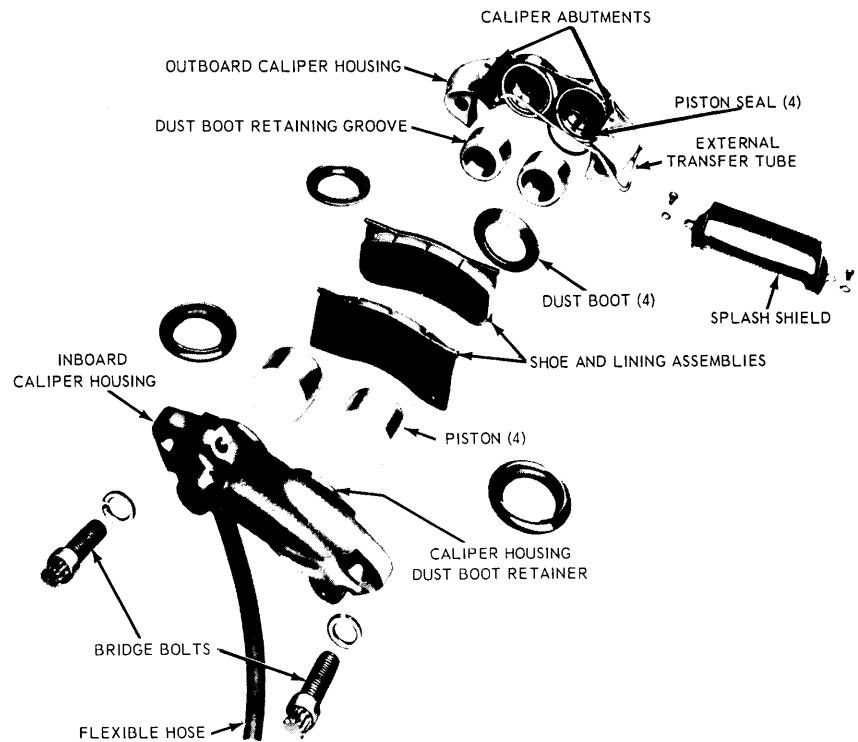

FIG. 25—Caliper Assembly—Exploded View
Do not remove the bridge bolts that hold the two halves of the caliper together. The two caliper housings are shown separated in Fig. 25 for illustration purposes only.
and the caliper splash shield (Fig. 25).
tap the end of the piston lightly around the circumference with a hammer, while the prying force is being applied. Be careful to avoid damaging the dust boot retainer in the caliper housing (Fig. 25). If this method of removal is used, the pistons must be replaced.
Clean all metal parts with alcohol or a suitable solvent (Fig. 25). Use clean, dry, compressed air to clean out and dry the grooves and passage ways. Be sure that the caliper bore and component parts are completely free of any foreign material.
5. Carefully install four new dust boots on the caliper housings and pistons. Be sure that each boot is fully seated in the groove of its respective caliper housing and piston (Fig. 25). **Do not use the original dust boots.**